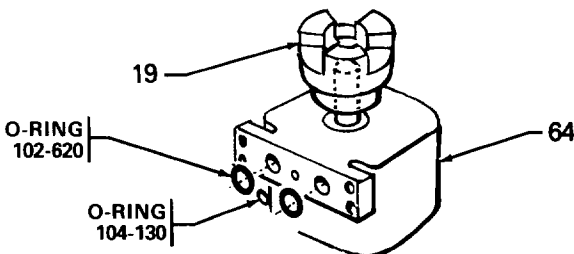

Fig 12
1. Unplug the unit, follow the **Pressure Relief Procedure Warning** on page 13, remove the shield (114) and disassemble the unit as explained under **“Replacing the Electric Motor”**.
2. Loosen the setscrew in the coupling half (19) and push the coupling against the hydraulic pump. See Fig 12. Take out the four screws (1) and washers (22) and remove the hydraulic pump. Discard the o-ring seals.
3. Remove the adjusting sprocket retaining nut (29) and pull the sprocket off the adjusting nut.
4. Apply light grease to the o-rings and put them in place on the pump mounting. Put the coupling half on the shaft of the new pump and leave it loose. See Fig 12.